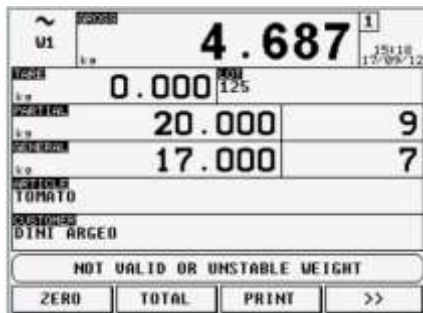

Figure 6. Totalisation failure (loading mode)
4. On totalisation failure the system message "NOT VALID OR UNSTABLE WEIGHT" appears, as in Figure 6